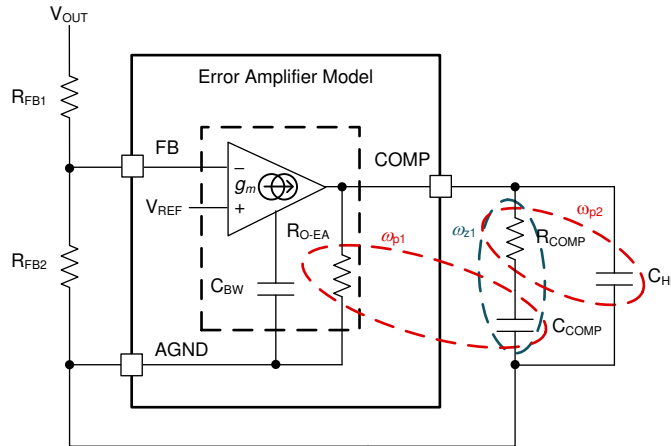

Figure 9-3. Error Amplifier and Compensation Network
Figure 9-3 shows a type-II compensator using a transconductance error amplifier (EA). The dominant pole of the EA open-loop gain is set by the EA output resistance, R_{O-EA} , and effective bandwidth-limiting capacitance, C_{BW} , as shown by Equation 26.